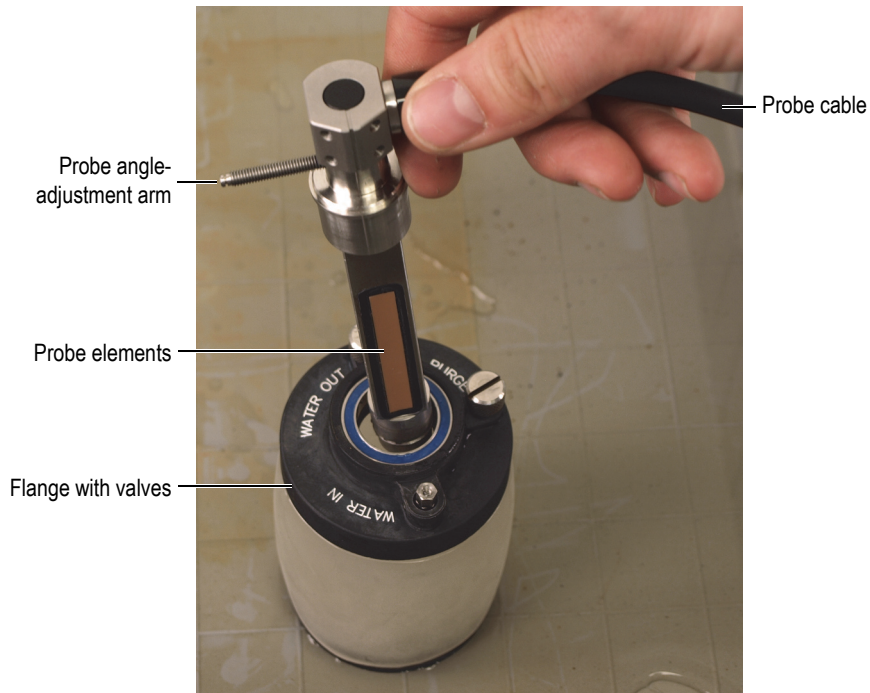

Figure 6-9 Inserting the probe-axle inside the acoustic wheel
1. Insert the axle containing the probe inside the acoustic wheel through the flange with liquid-control valves (Figure 6-9 on page 87).